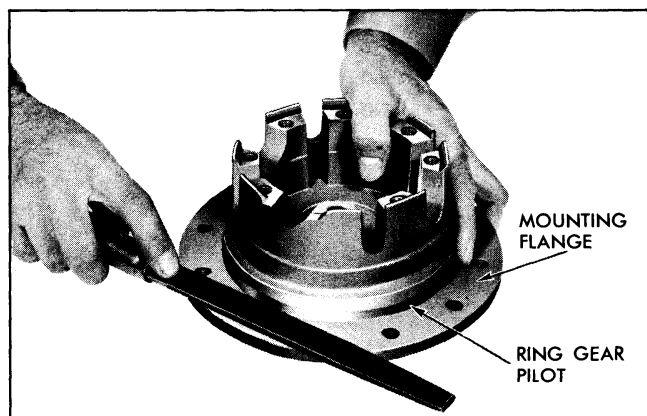

Fig. 4-65 Removing Nicks and Burrs from Mounting Flange
2. Remove nicks and burrs from ring gear flange with mill file (Fig. 4-65).